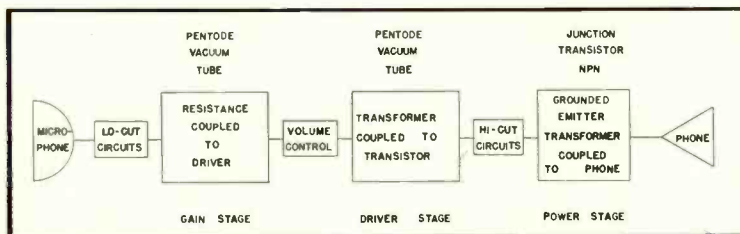
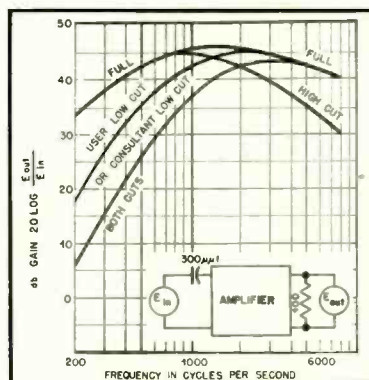
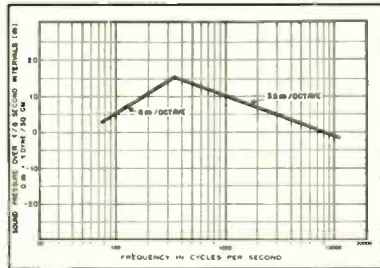
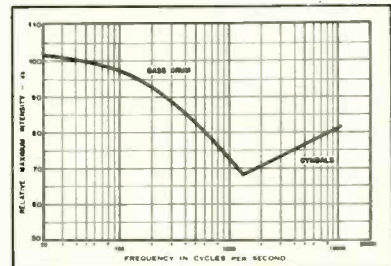

Fig. 5. Block schematic of the 1010 hearing aid.
Fig. 8. Frequency response of the amplifier for various positions of the fitting controls.
Fig. 6. Curve showing peak speech energy vs. frequency.
Fig. 7. Relative energy curves for bass drum and cymbals. Compare with Fig. 6.
Figure 5 is a block diagram of the 1010. Since the amplifier is used to couple the transducers, the requirements of the amplifier will become clear after examining the properties of the transducers.
A variety of receivers with different frequency response is available from which the qualified consultant may fit the one best suited to the needs of the hard of hearing individual. One of these receivers, type 8080, is shown in the upper part of Fig. 3. It is only  $\frac{5}{8}$  in. in diameter and  $\frac{5}{16}$  in. thick, small enough to be concealed within the ear. Yet it has a frequency response which extends close to 4000 cps and can produce a sound pressure level of about 115 db in the ear when operating from a power source of one milliwatt capacity. Curve (A), Fig. 7, shows the frequency response of 8080 receiver, while curves (B) and (C) show the response curves of two other receivers, types U-1 and U-2, respectively. The U-1 is about four to five db more sensitive than the 8080 and its frequency response extends to 3000 cps. The U-2 is of lower sensitivity and has relatively greater high-frequency emphasis. The frequency-response curves were made using the standard 2-cc artificial ear as defined in ASA Z-24.9. All of these receivers are of the magnetic type. A concentric magnetic system embodying a cylindrical
From the previous discussion of the receiver characteristics it is clear that to develop a sound pressure level of about 120 db the amplifier should have an output of about 1 mw. Similarly in the discussion of the sensitivity of the microphone it was shown that the output of the microphone is of the order of 1 mv for conversational speech. To provide 1 mw for the receiver from 1 mv at the microphone, the voltage gain of the amplifier should be about 50 db. Figure 8 shows the electrical frequency response of the amplifier, and Fig. 9 is the circuit schematic. Reference to the block diagram, Fig. 5, will facilitate following the schematic. Starting at the output end, the transistor is connected with emitter grounded and biased to draw 3 ma of emitter current with 1.25 volts on the collector. This provides a power input of 3.75 mw to the transistor from which it is possible to get 1.5 mw into the load. The load impedance required is theoretically
Fig. 7. Response of three types of receivers used with the 1010. (A), type 8080; (B), type U-1; and (C), type U-2. All three are plotted to show relative acoustic output when coupled to a 2-cc artificial ear. Dotted curves indicate undamped response.
The input of tube  $V_2$  is derived from the microphone through a low-frequency control circuit. The operation of the low-frequency controls may be understood more easily by reference to Fig. 10. Here  $e$  represents the open circuit voltage developed by the microphone,  $C_w$  represents the capacitance of the microphone (300  $\mu\text{f}$ ). The other symbols correspond to those on Fig. 9. Figure 10 shows that with the switches in the position indicated, the capacitance of the microphone,  $R_2$ ,  $C_1$ , and  $R_3$  constitute two stages of high-pass or low-cut networks. This provides the greatest amount of low-frequency attenuation. When the upper switch is moved from 1 to 2, one of the cascaded networks is eliminated. This provides less low-frequency attenuation. If now the switch at the lower end of  $R_3$  is moved to the right, the full low-frequency response is available. Reference to Fig. 8 shows the effect of these controls on the low-frequency response of the amplifier. The high-frequency response modification shown in this figure is controlled by switching  $C_2$  in or out of the circuit. It is quite remarkable that despite the inclusion of two microminiature trans-
energy vs. frequency, (Fig. 6), it can be seen that they are of the same general shape and order of magnitude. Thus, a flat recording is actually obtained over the voice-frequency range because the system can and does handle the maximum power of the voice at all frequencies. This phenomenon also explains one of the important reasons why the dictating machine cannot be used for music—the average maximum energy curve of musical instruments is quite different. For example, Fig. 7 shows the relative energy output for the drum and cymbal.
Parts layouts, mounting-hole and lead-through-hole locations can be marked directly on the aluminum pan with a pencil (Fig. 3). Small holes are punched with the ice pick (just started for metal-screw holes), and larger ones can be cut out on a compass drawn line with the punch blade of the knife (Fig. 4) or with a wood auger (Fig. 5) or the expansion bit (Fig. 6). The burr reamer will open up holes too small for the expansion bit, or in between auger sizes (Fig. 7).
Bolts can, of course, be used as with any other chassis for parts mounting, or self-tapping screws will secure socket flanges, receptacle plug wells (Fig. 8), and similar parts. Layout, cutting, and assembly of the whole chassis is the work of but a few minutes.
Right, top to bottom: Fig. 6. An expansion bit cuts the large round holes. Fig. 7. An ordinary reamer can be used to enlarge holes to odd sizes. Fig. 8. Self-tapping screws are used to secure sockets, plug-wells, and similar parts. Fig. 9. Typical unit construction—a magnetic recording unit with oscillator in foreground, power amplifier, record-playback amplifier, and power supply left to right in the rear.